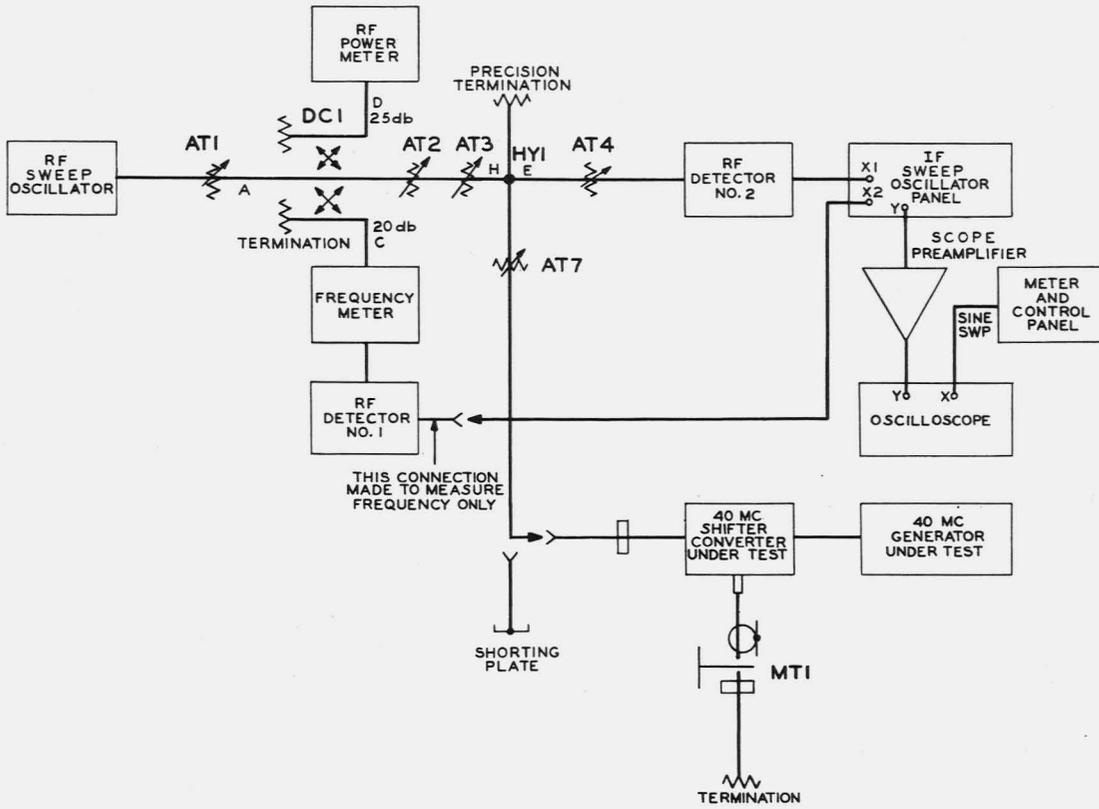

Fig. 26 - Test Arrangement for Output Impedance Adjustment of 40 MC Shifter
- (1) Set up the test equipment as in Fig. 26.
- (2) Set up the RF sweep oscillator for measurements at a frequency of